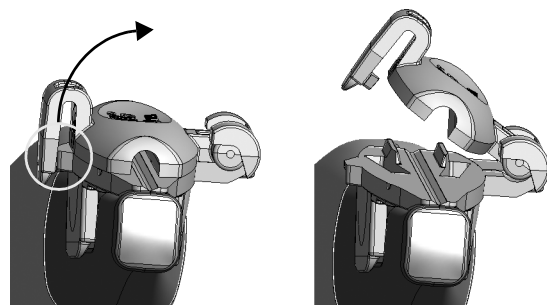

Figure 14. Push to release the needle guide on the Burr Hole Transducer Type 8863.
- 1 Hold the transducer with your left hand. With your right hand, carefully push the needle guide insert sideways until it opens up, see Figure 14.